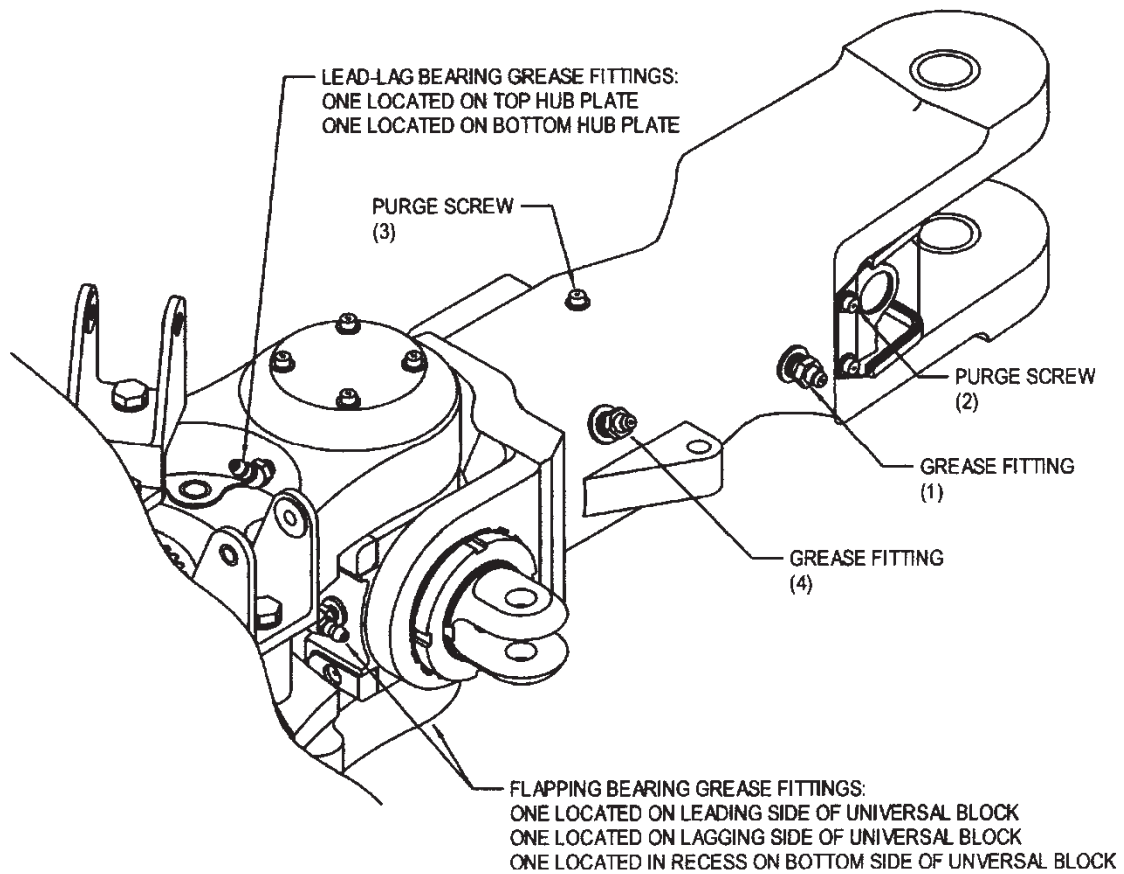

Figure 4-2. Main Rotor Blade Grip, Lead-Lag Bearing, and Flapping Bearing Lubrication
4-27. Main Rotor Blade Grip (Figure 4-1, View P, and Figure 4-2)
4-29. Main Rotor Flapping Bearings (Figure 4-1, View Q, and Figure 4-2)
A. Purge lubricate the main rotor flapping bearings using the grease fitting located in the recess of the bottom of the vertical hinge pin (Figure 4-2).